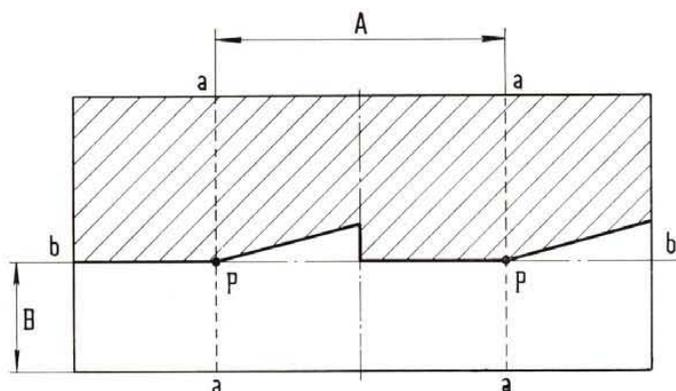

Fig. 362 - Headlight aiming diagram.
Draw two vertical lines a-a on the screen (fig. 362). These lines should be equally spaced from the perpendicular to the car longitudinal axis and  $38 \frac{13}{16}$ " (986 mm) apart (A), which corresponds to the headlight center - to - center distance.
- the horizontal separation line between the unlit and lit areas should be on line b-b (fig. 362);